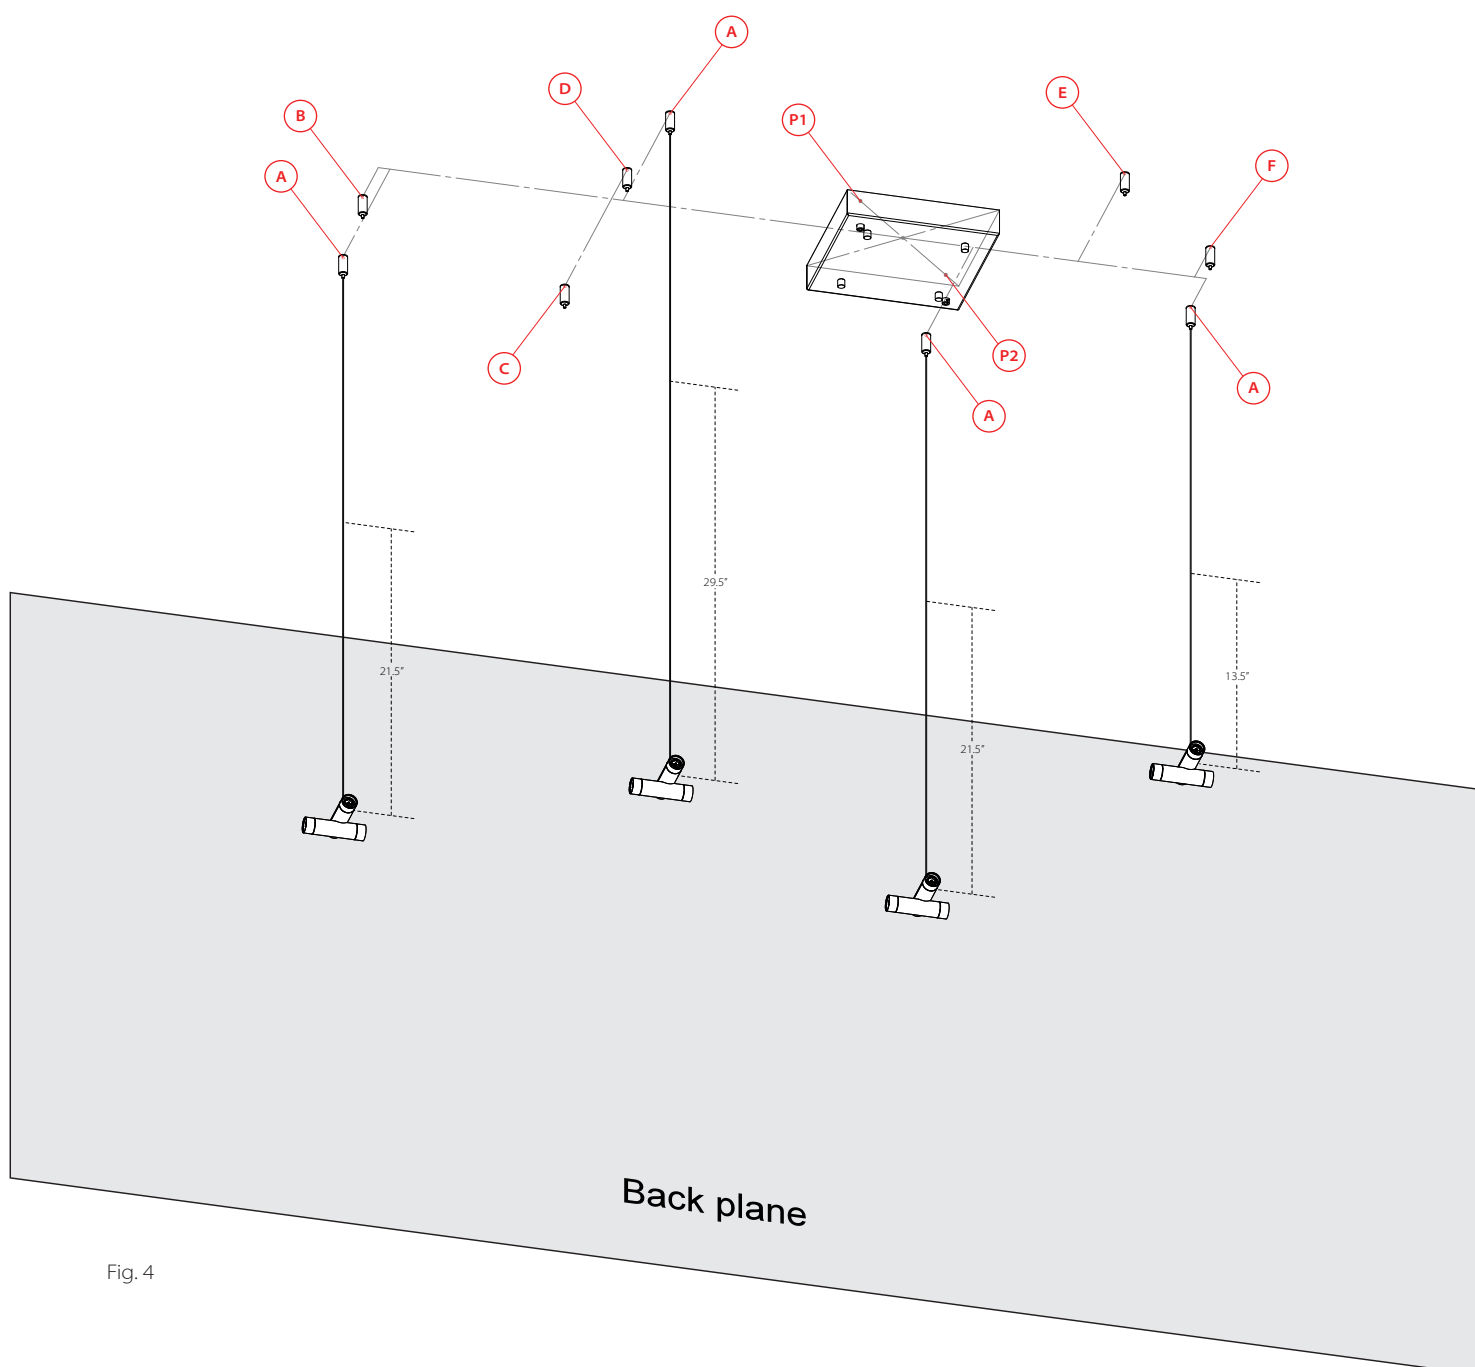

Fig. 4
Install the Hanging Connectors to their respective locations shown in Fig. 4.
5. Twist together the outer braided conductor to form the negative wire of the fixture, then strip 5/8" off the end of the inner stranded conductor to form the positive wire of the fixture (Fig. 4).